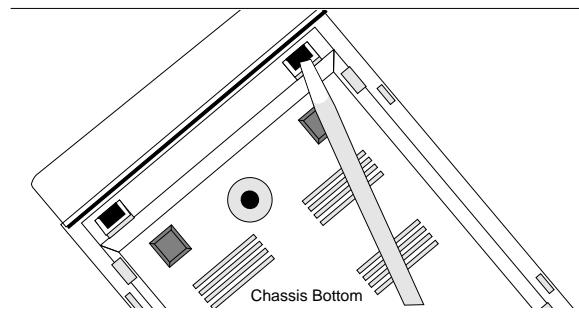

Figure 2-4
3. Insert a medium size screwdriver blade in one of the latches on the bottom of the unit. Do not push the screwdriver but lightly press the blade against the prong (Figure 2-4). This disengages the prong from the latch. Repeat this procedure with the remaining latch.